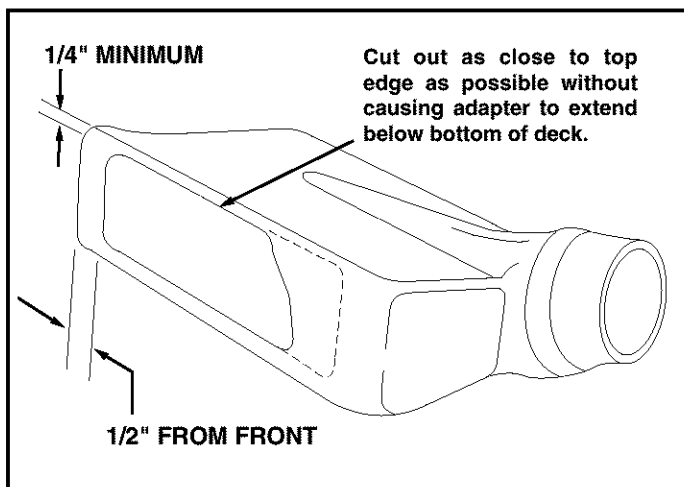

FIGURE 22
- Tape the template to the face of the adapter, about 1/2" from front and 1/4" down from top for deeper decks. For shallow decks, position template low enough that adapter will not extend below bottom of deck. Mark outline of template on face of adapter using white crayon, nail or scribe. Drill a starting hole inside the outline, then use a saber saw or key hole saw to cut out the opening. See figure 22.